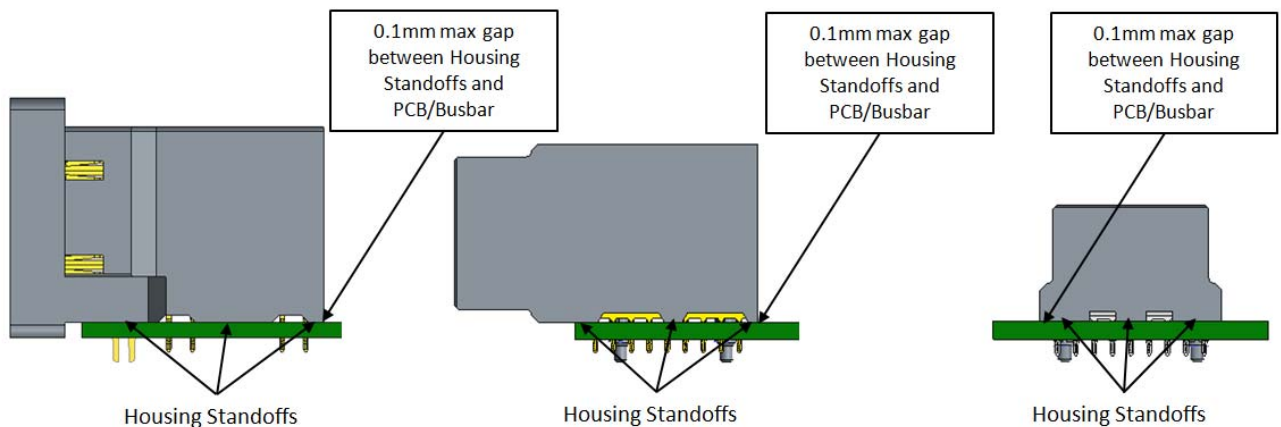

Figure 8: PwrMAX® 2 position Orthogonal Configuration (Proper Seating Depth)
- Visually assure that the plastic standoffs on the bottom of the assembly are seated within 0.10 mm of flush to the PCB/Busbar but not crushed (see Figure 8). A larger gap beneath the standoffs may indicate that the product is not seated parallel or perpendicular to the board. In the case of the header, this can cause misalignment with adjacent components.